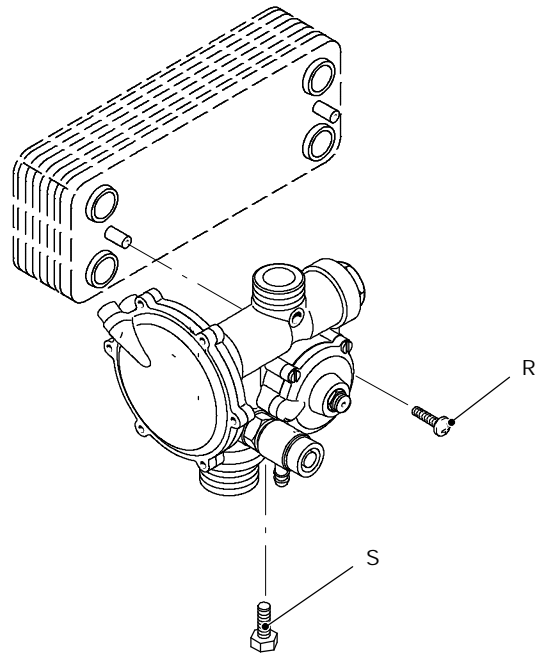

fig. 33
- 7 Unscrew the screw *R* that holds the d.h.w. heat exchanger, the bolt *S* that holds the valve to the frame (fig. 33) and remove the valve.